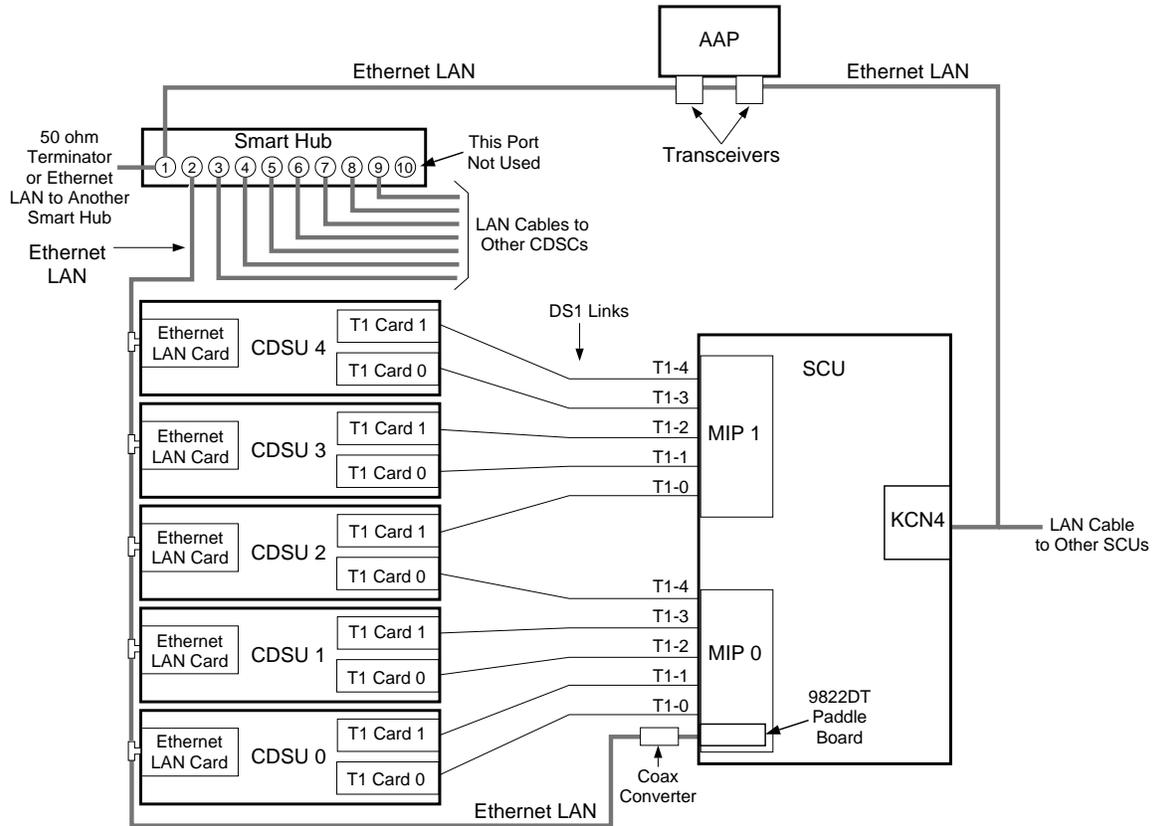

Figure 16. SCU/CDSU-I/AAP Connections
- SCU/CDSU-I/AAP Connections (Figure 16)